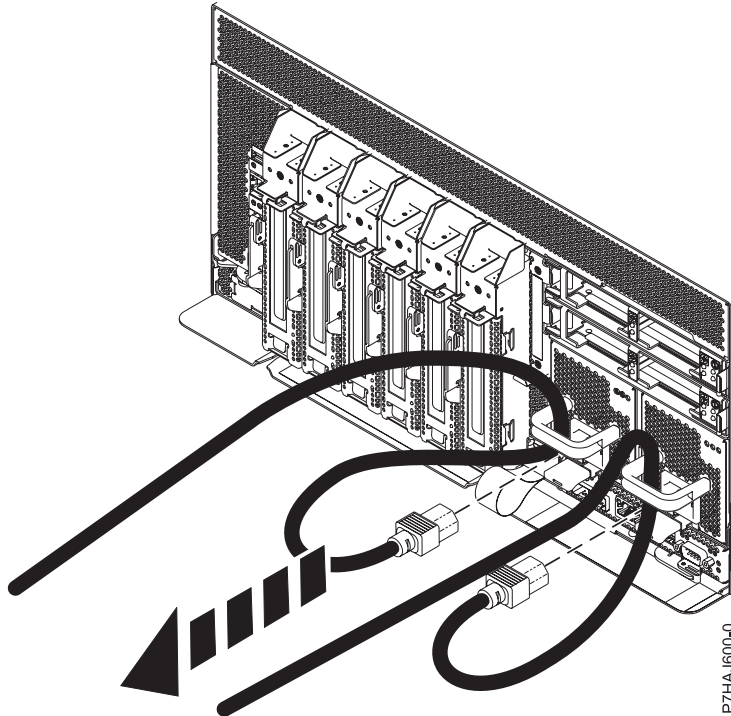

Figure 8. Removing the power cords
3. Disconnect the power cords from the system unit as shown in Figure 8 on page 23.